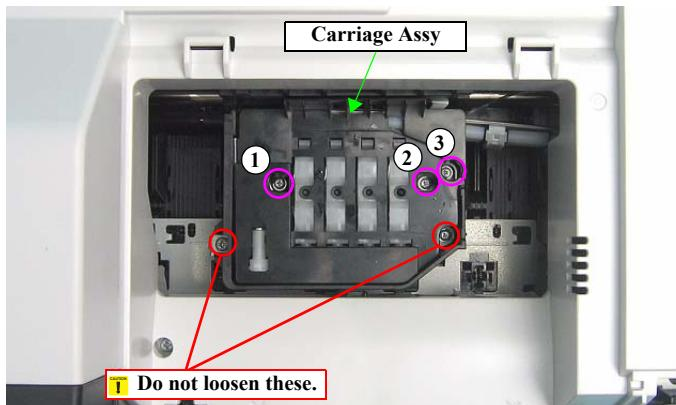

Figure 5-10. Head angular adjustment (1)
- Loosen the screws (x3: ○) in the order given in Fig. 5-10.
(The Carriage Assy moves to the location shown in Fig. 5-10.)